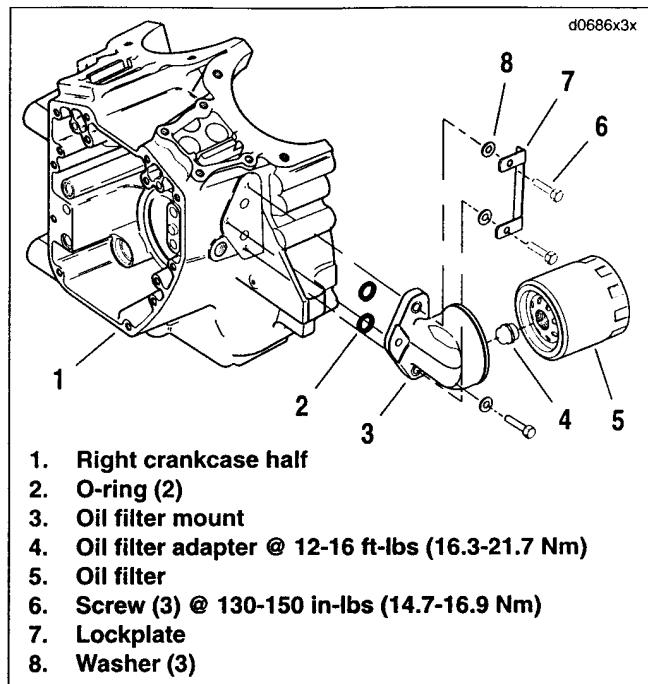

Figure 3-151. Oil Filter Mount Assembly
- To catch any oil that may drain out of the engine, place a suitable container under the vehicle, directly under the oil filter mount on the front of the engine. See Figure 3-151.
- See Figure 3-151. Remove oil filter (5) using OIL FILTER WRENCH (Part No. HD-42311 or HD-44067). Discard oil filter.
- Remove oil filter adapter (4).
- Bend tabs on lockplate (7) away from two hex screw heads. Remove three screws (6) securing oil filter mount to engine crankcase. Remove lockplate, washers (8) and oil filter mount.
- Remove and discard two o-rings (2).
- See Figure 3-151. Clean oil filter mount (3) and oil filter adapter (4) in a non-volatile cleaning solution or solvent. Clean the oil filter mount flange of any old gasket material. Remove any thread locking adhesive material from the threads of the oil filter adapter.
- Coat threads of three filter mount screws (6) with LOCTITE THREADLOCKER 243 (blue). Install filter mount with two new o-rings (2) and new lockplate (7) to crankcase with three screws and washers (8). Tighten screws to 130-150 in-lbs (14.7-16.9 Nm).
- Coat the threads on one end of the oil filter adapter (4) with LOCTITE THREADLOCKER 243 (blue).